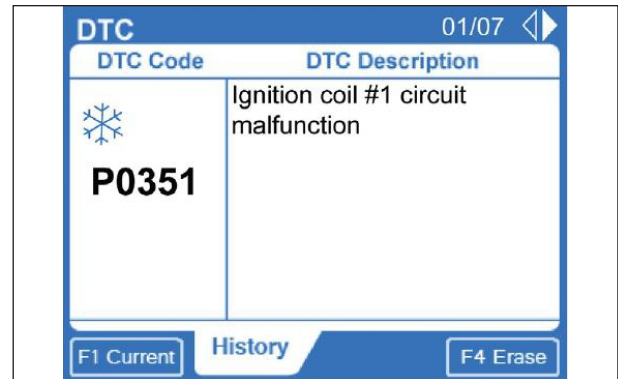

Fig. 7.12
- Once the error is confirmed it will appear in history. Once error has moved to history it means that the error has been confirmed. It will have both confirmed errors as well as cleared errors (error is cleared from vehicle but not erased from memory). (Fig. 7.12)